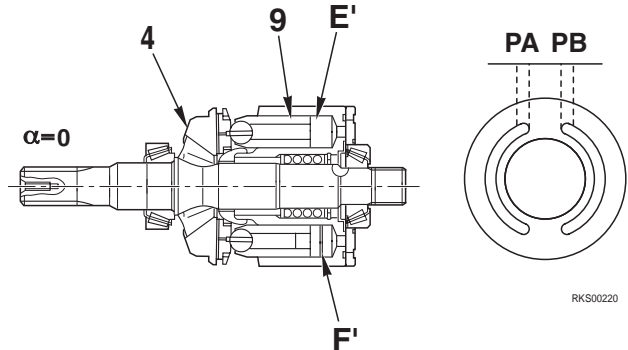

Fig. 2
- ii) If center line **X** of rocker cam (4) is in line with the axial direction of cylinder block (9) (swash plate angle = 0), the difference between volumes **E'** and **F'** inside cylinder block (9) becomes 0, so the pump does not carry out any suction or discharge of oil (Fig. 2).